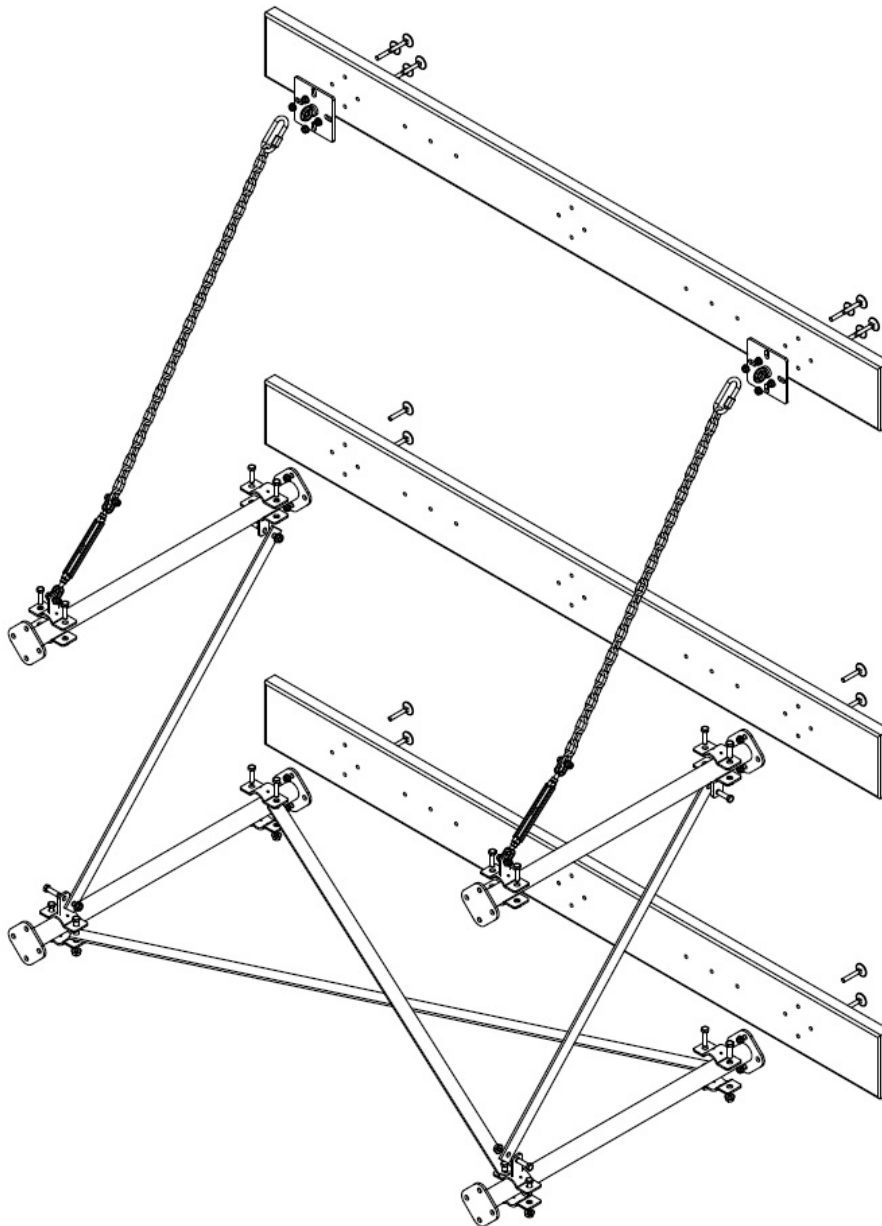
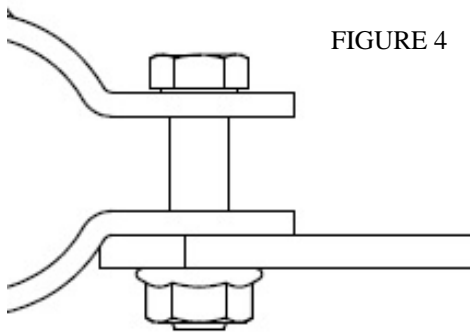

FIGURE 3
FIGURE 4
4. Attach the IPPC204 3/8" repair link and Grade 40 #7 Proof-Coil chain to each chain eye bracket. See Figure 3.
9. Attach the diagonal side braces to the top and bottom extension pipes. Install the IPB1370 connector brackets and 1 1/2"x2" flat steel braces between the top and bottom extension pipes. See Figure 3.
10. Attach the cross bracing between the bottom extension pipes. Install the IPB107 saddle clamps on the bottom extension pipes loosely. Attach the 1 1/2"x2" flat steel braces to the bottom of the IPB137 connector brackets in the front and the IPB107 saddle clamps on the bottom extension pipes. Bolt the cross braces together using 7/16"x1 1/2" machine bolt with nylock nut. See Figure 3 and Figure 4.